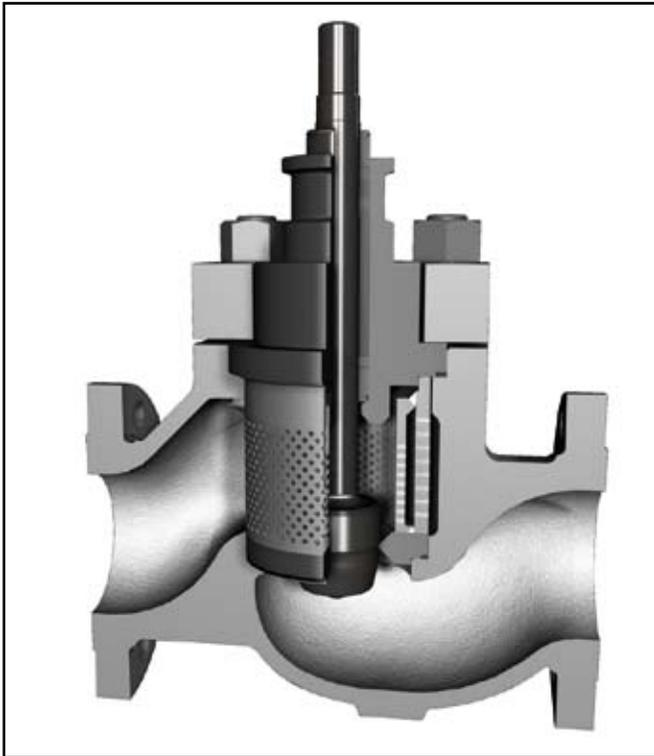

Figure 8
8.3.1. MegaStream replaces the standard Mark One retainer with a drilled hole retainer, see Figure 8. The plug and bonnet are typically identical to the standard Mark One design. Assembly and disassembly of the valve follows the standard procedures.